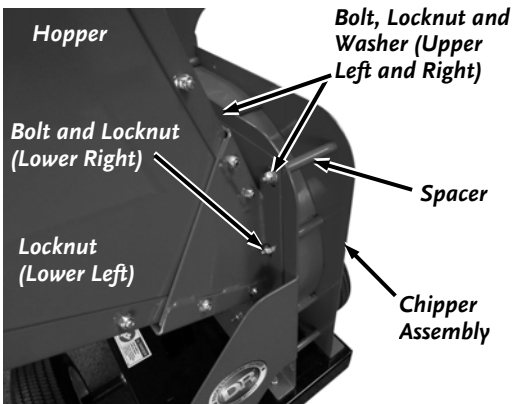

Figure 16a: 16.5
2. Position the Hopper Assembly onto the Housing Support and Stud (**Figure 16a**) and secure the upper Bolts to the Hopper Assembly with two 5/16-18 Locknuts and Washers using two 1/2" Wrenches.